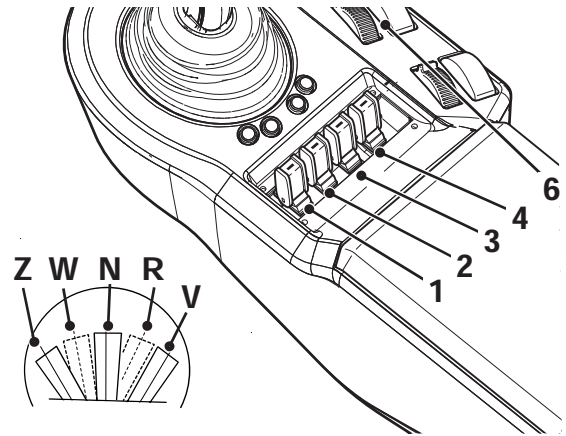

Fig 10.
- 4 Before the second instrument panel buzzer has finished sounding, slowly cycle the green spool lever **1** from its central neutral position to extend **V**, then to retract **W**, and back to neutral **N**. ⇒ Fig 10. \(□A-9\)